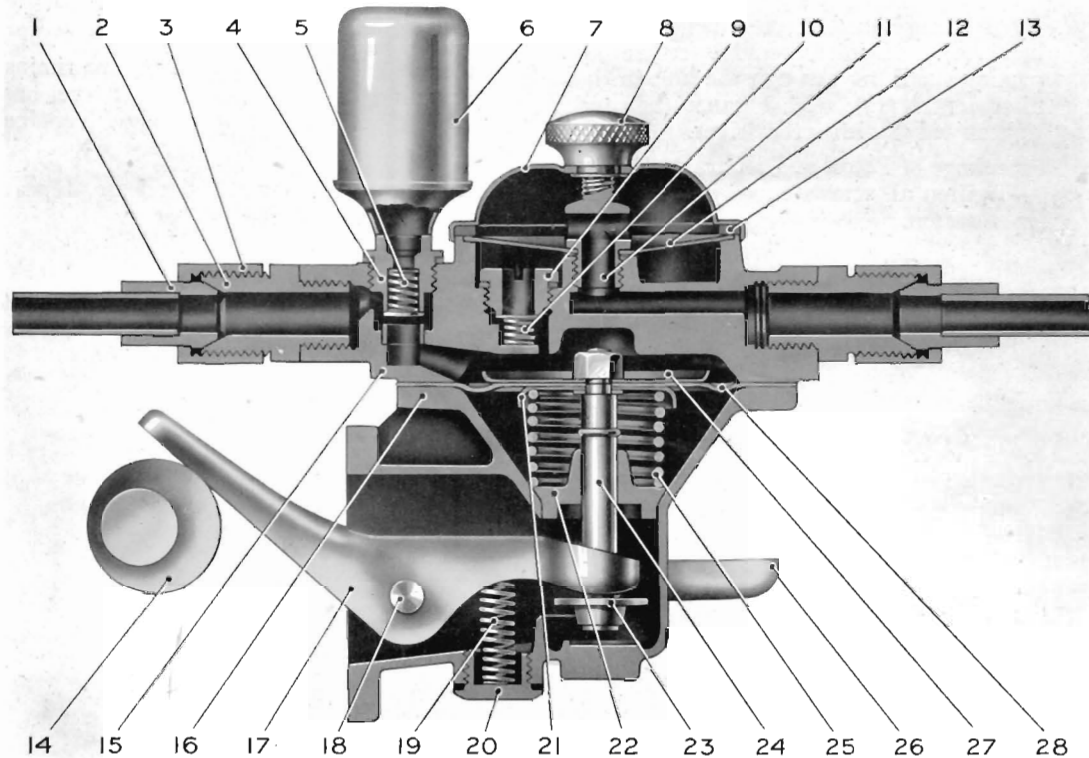

FIG. 12.
Petrol is fed to the carburettor by a small pump fixed to the crankcase and driven by an eccentric on the camshaft. The operating lever (17), Fig. 12, is pivoted at (18), and when the eccentric rotates, the collar (23) is depressed, thus pulling down the diaphragm (28). This creates a vacuum above the diaphragm and petrol is drawn into the pump chamber, whence it passes through the filter (12) and inlet valve (9) into the pressure chamber. When the lever (17) is on the back of the eccentric, the spring (25) pushes the diaphragm up and forces petrol past the outlet valve (4) to the carburettor. A certain level of petrol is maintained in the bowl (6) whilst running,